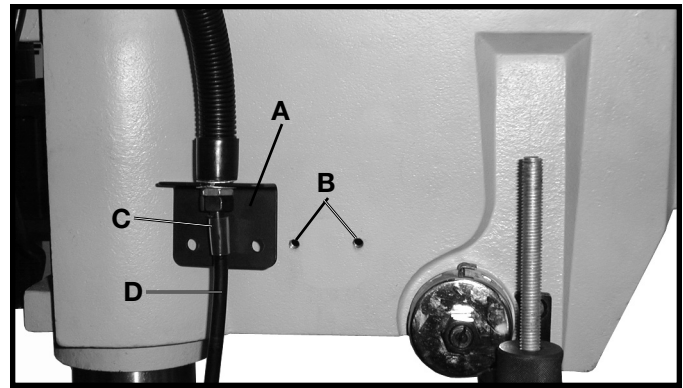

Fig. 17
18. Align the two holes in the lamp bracket (A) Fig. 17, with the two holes (B) on the side of the drill press head.
19. Place the cord bushing (C) Fig. 17, around the top of the lamp cord (D).